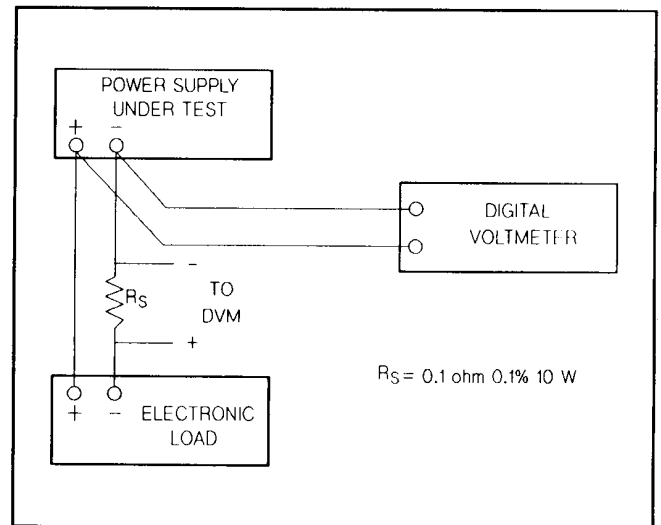

Figure A-2. Basic Test Setup
- Connect the test equipment as shown in Figure A-2. Operate the electronic load in constant current mode and set its current to the full rated value of the power supply (E3610A: 3.0 A, E3611A: 1.5 A, E3612A: 0.5 A).
- Connect the test equipment as shown in Figure A-2. Operate the electronic load in constant current mode and set its current
- a. Connect the test equipment as shown in Figure A-2, but replace the DVM with the oscilloscope. Operate the electronic load in constant current mode.
- Connect the DVM across R_s in Figure A-2. Operate the electronic load in constant voltage mode and set its voltage to the full rated value of power supply.